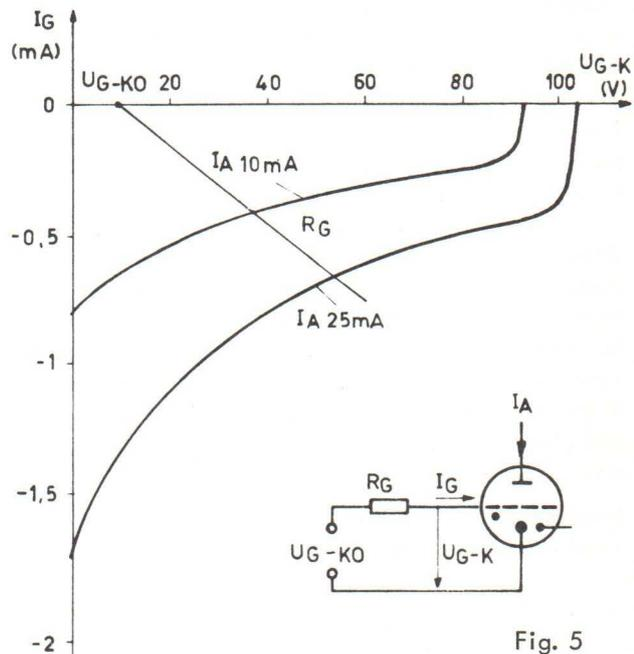

Fig. 5
b) When the anode gap is fired, the grid acts as a probe in the main discharge. The probe characteristic in figure 5 shows the relation between the voltage on the grid ( $U_{G-K}$ ) and the grid current for two different values of the anode current (tube type GT 21).